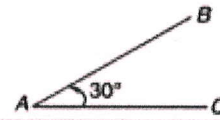

Figure 2
3 Design joint A of a tubular roof truss and the member meeting at the joint A, the line diagram of which is shown in Figure 2. L3 12M
- 9 Find the permissible load on the column shown in the Figure 2. The effective L3 12M
- 10 Calculate the permissible load on the column section shown in Figure2. The L3 12M